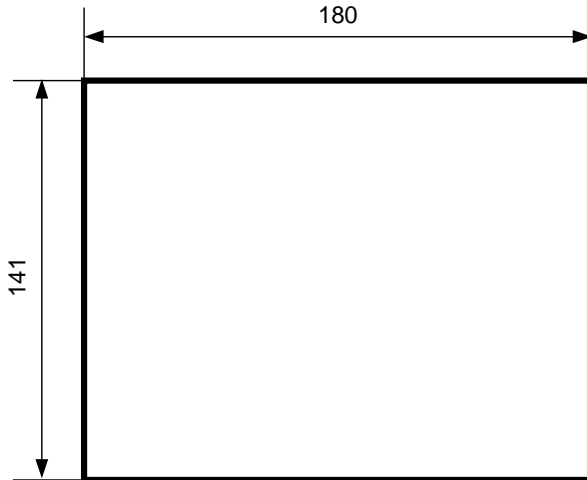

Fig. 15: Cutout dimensions (all values mm)
2. Prepare the panel cutout corresponding the specified dimension (see *fig. 15*).